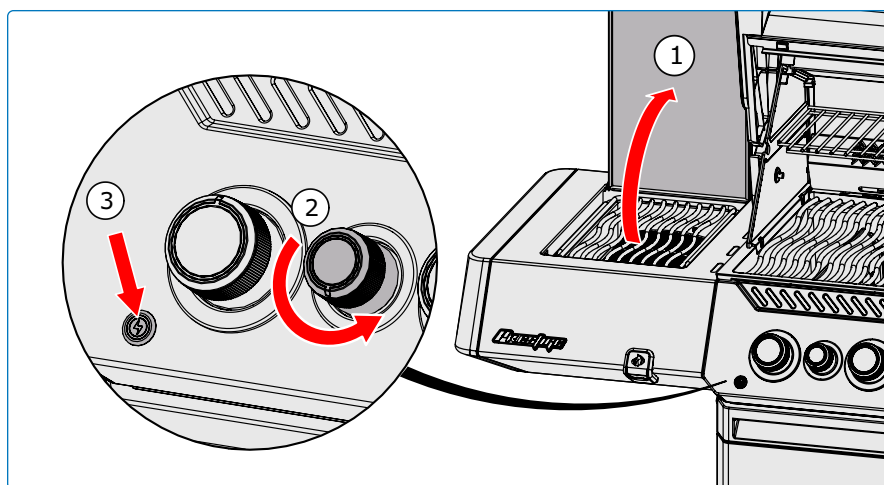

Fig. 7
4. If the burner will not ignite within 5 seconds – turn burner control knob clockwise to the OFF position. Wait 5 minutes. Repeat steps 2 and 3 (**Fig. 7**), or see "Alternative Ignition Instructions"